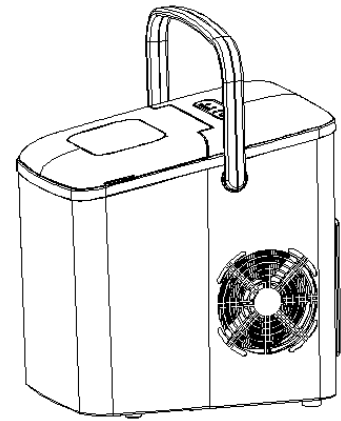

Fig.3
- 4) Hold the center of handle and lift it upwards (see Fig.3), check and make sure that no abnormal condition can be found.